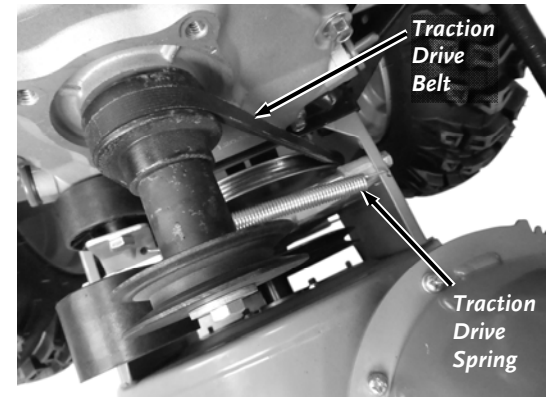

Figure 58
5. Remove the Traction Drive Spring from the Frame using Pliers (**Figure 58**).